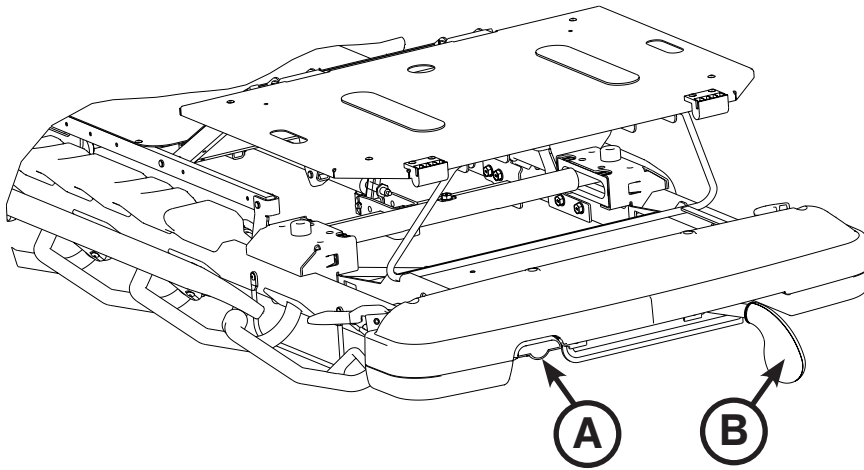

Figure 24: Gatch - Foot End
To raise the gatch, pump handle (B) repeatedly to the left until the gatch has reached the desired height (5.5"/14 cm minimum) as shown in Figure 24.
To lower the gatch, pull handle (A) until the gatch has reached the desired height (5.5"/14 cm minimum) as shown in Figure 24.